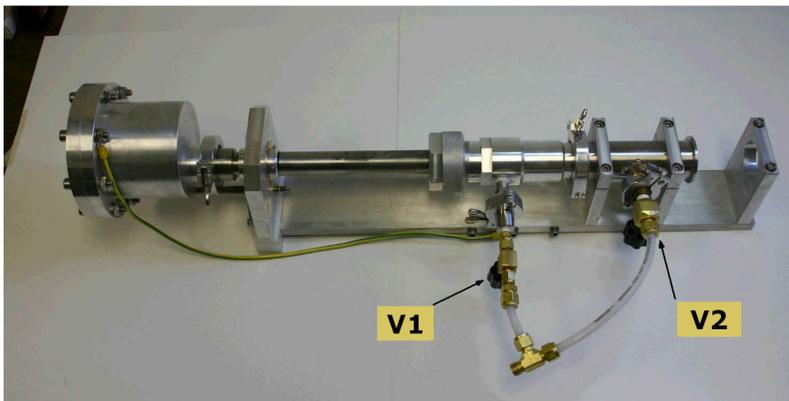

Fig.1
1. the V1 valve (Fig.1) of the roughing line should be already open and must be left open;
2. the V2 valve (Fig.1) of the roughing line should be already **closed** and must be left **closed**; for SXR2 this valve is in the rear part;
6. the V1 valve (Fig.1) should be already open. Leave it open;
7. the V2 valve (Fig.1) should be already **closed**. Leave it **closed**; for SXR2 this valve is in the rear part;